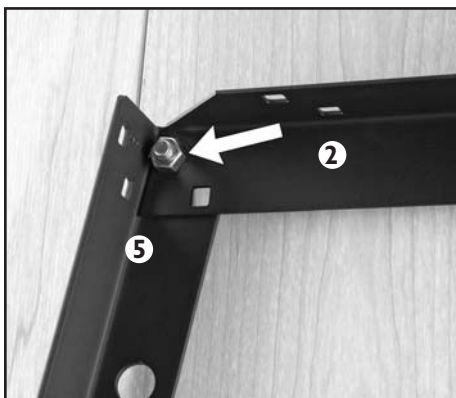

Fig. 2
2. Starting with the upper left corner, fasten the left leg (5) and the Upper Side Stretcher (2) with a 5/16-18 bolt (10) and nut (11). Use the hole closest to the inside corner of the leg as shown in **Fig. 2**. Leave the adjacent hole open at this time.